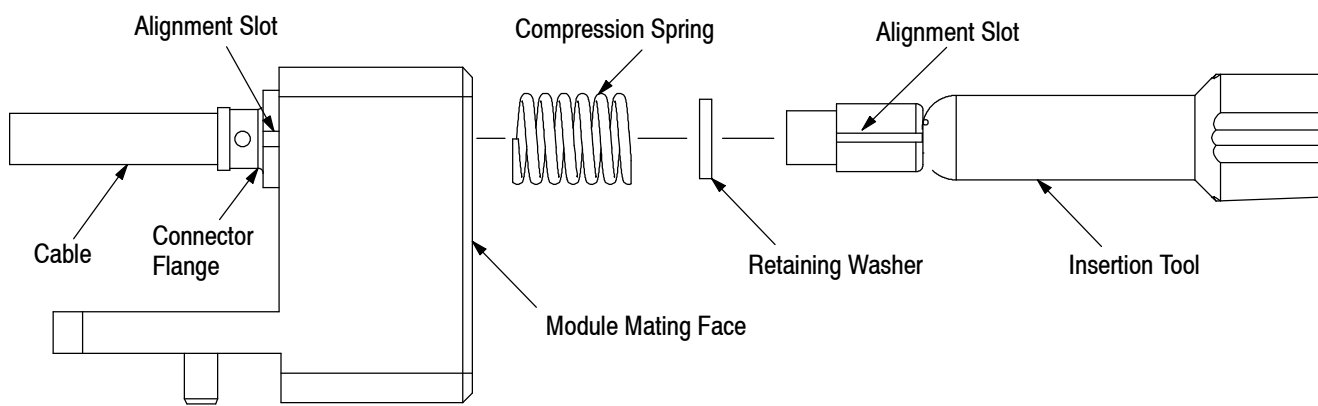

Figure 5
- Insert soldered cable connector into module mounting hole from the flange side of the module bottoming the connector body flange on the module. See Figure 5.
4. Align the internal retaining washer flats with the external flats on the connector body using the alignment slots on the connector flange and on the insertion tool. See Figure 5.